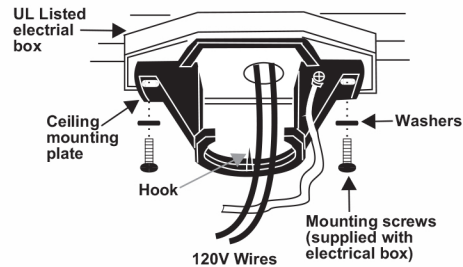

Figure 5
2. Pass the 120-volt supply wires through the center hole in the ceiling hanger bracket as shown in Fig. 5.
3. Secure the hanger bracket to the ceiling outlet box with the screws and washers provided with your outlet box. (Fig. 5)
Step 1. Pass the 120-volt supply wires through the center hole in the ceiling hanger bracket as shown in Fig. 5.